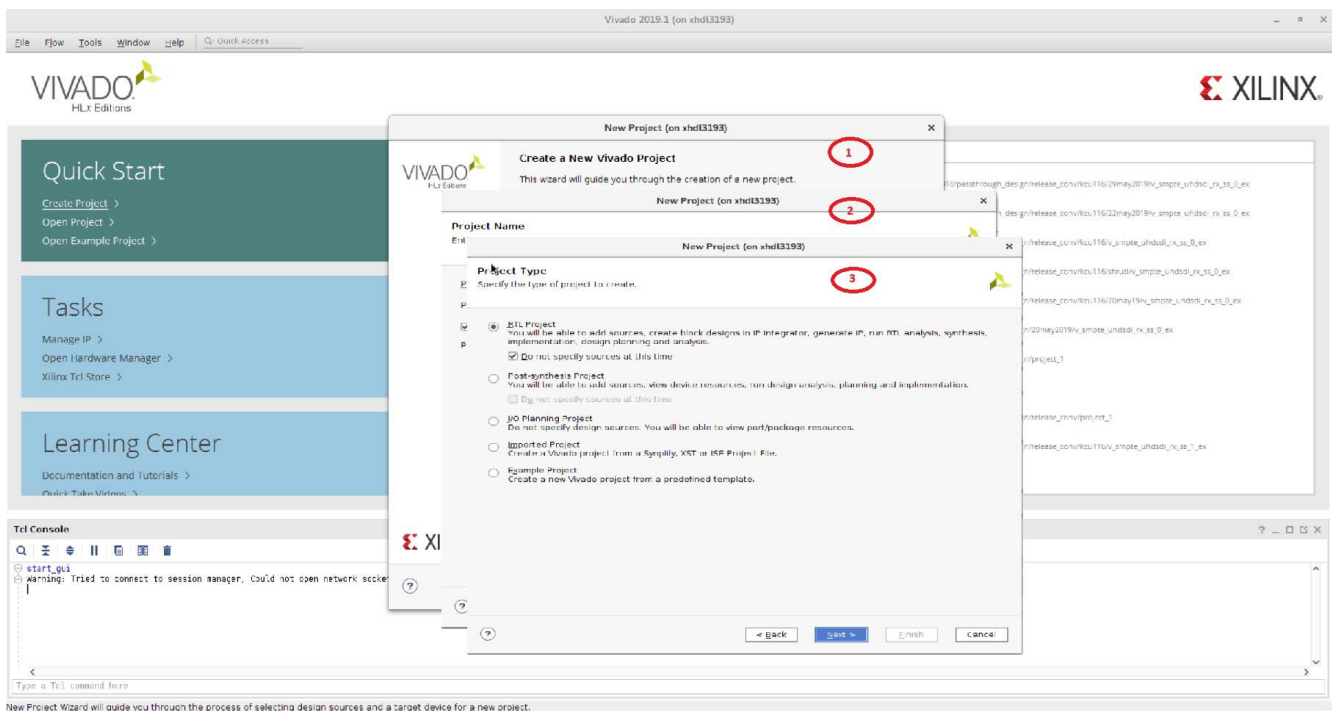

Figure 5-12: ZCU106 Pass-Through New Project
2. In the pop-up window, press **Next** 3 times as shown in Figure 5-12.